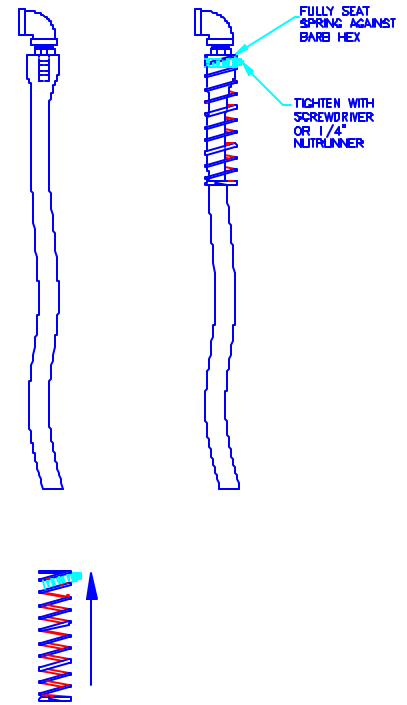

Figure 10.
10. Slide the spring/clamp up over the hose and 3/8" hose barb until it fully seats against the barb's hex, see Figure 10.